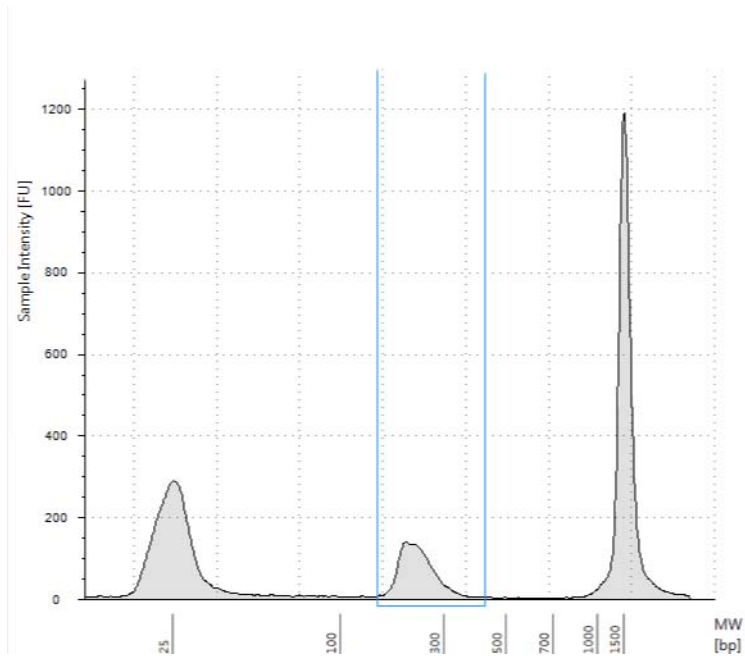

Figure 8 Analysis of amplified library DNA using the 2200 TapeStation with a D1K ScreenTape. The electropherogram shows a peak size of 260 bp.
- 3 Verify that the electropherogram shows an average DNA fragment size of about 260 bp. A sample electropherogram is shown in Figure 8.